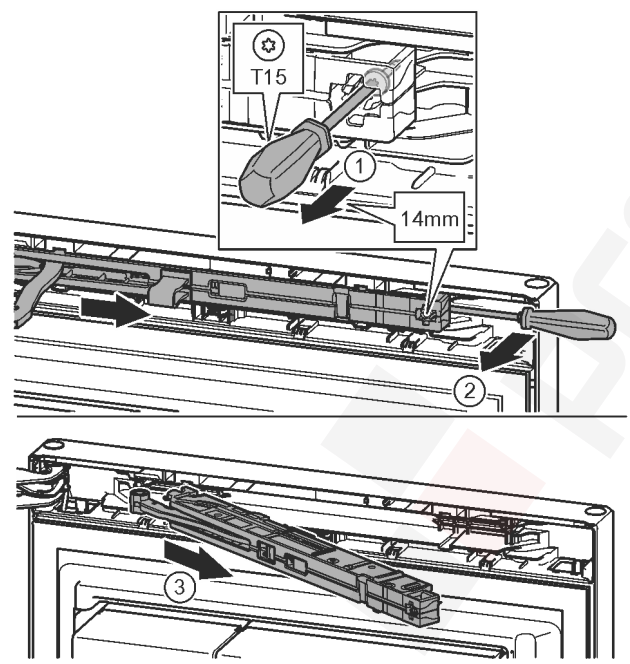

Fig. 13
- Undo the soft stop mechanism screw with a T15 screwdriver approx. 14 mm. *Fig. 13 (1)*
- Insert a screwdriver behind the soft stop mechanism on the handle side and rotate forwards. *Fig. 13 (2)*
- Remove the soft stop mechanism. *Fig. 13 (3)*